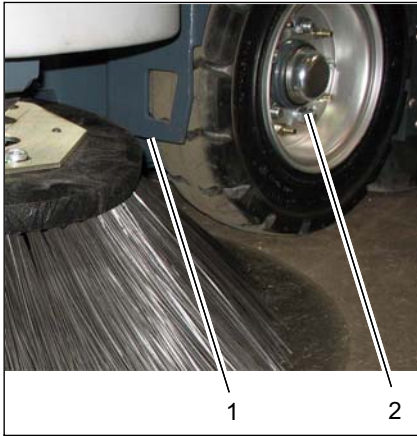

Fig.22
3. Position car jack at chassis (Fig. 22/1).
4. Before removing the tyres from the vehicle, lightly loosen the five inner hexagon flanged nuts (Fig. 22/2).